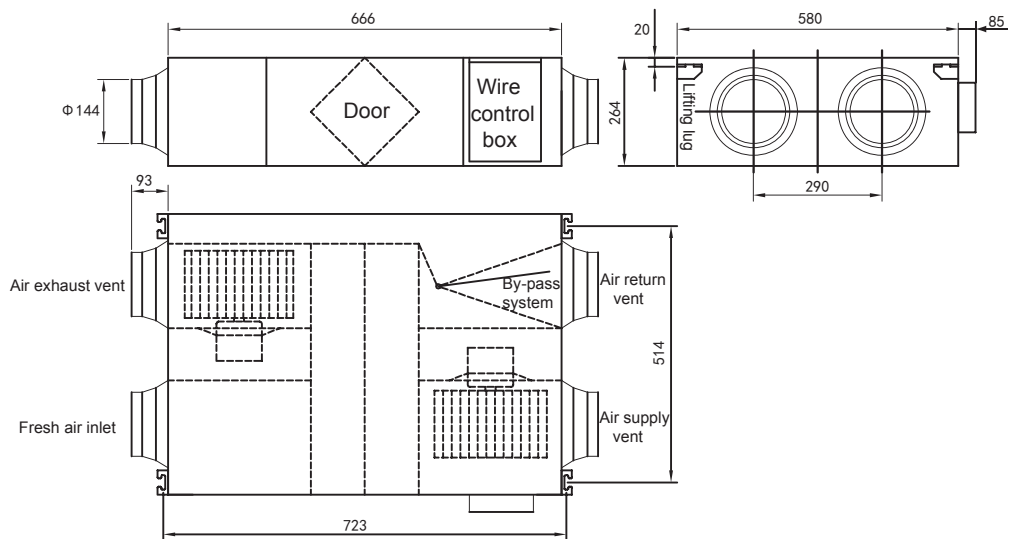

Fig. 3-4
- Key dimensions of the unit and air duct installation. (See the following attached picture Fig.3-4~3.7 & Table 3-1 )